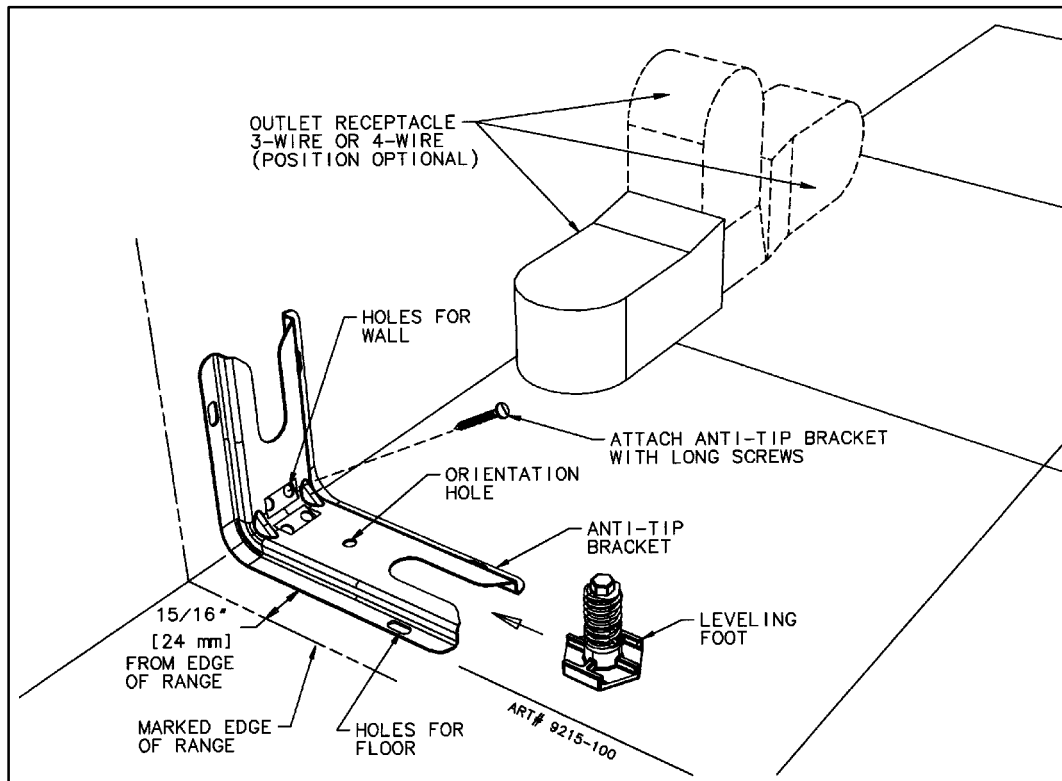

FIGURE 4
Locating The Anti-Tip Bracket (See Figure 4)
If the outlet receptacle must be mounted as shown in figure 4, the range will not push back against the wall.
- B. Place the bracket 15/16" (24 mm) from the marked "EDGE" toward the center of opening and against the back wall as shown in figure 4, with orientation hole against floor.
- C. Use the bracket as a template and mark the required holes as shown in figure 4 for the type of construction you will be using.